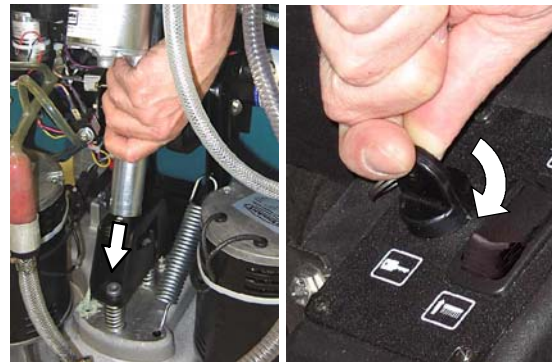

FIG. 7
- 4a. This step may require an assistant. Firmly grip the actuator tube with your right hand and turn on the key with your left hand (Fig. 7). As the tube begins to extend, guide it down into the mounting bracket. Turn off key.